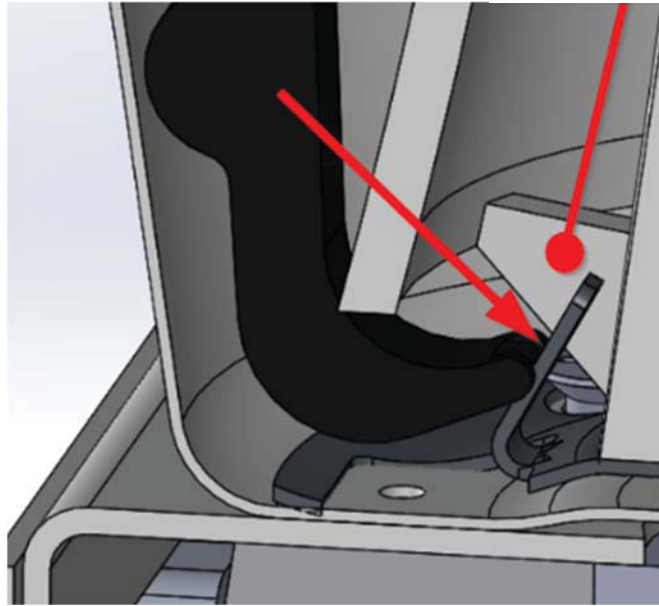

Figure 14
- 2.1.1.3 Remove the re-entrant tip with a ½" drive torque wrench. Rotate wrench counter-clockwise. Inspect re-entrant tip internal threads for stripping and cross members for cracking, see Figure 14 to identify re-entrant tip cross members. Contact AEM for replacement re-entrant tips as necessary. Remove Wrench Adaptor. Set re-entrant tip aside for later re-assembly.
- 2.1.2.4 Torque to 140 in-lb, rotate wrench clockwise. Ensure re-entrant tip cross member is beyond bend tab, if necessary, rotate re-entrant tip clockwise slightly to clear. See Figure 14 for tab bend position example. Remove Wrench Adaptor. Repeat steps 2.1.1.1 to 2.1.2.4 for each doubler plate.